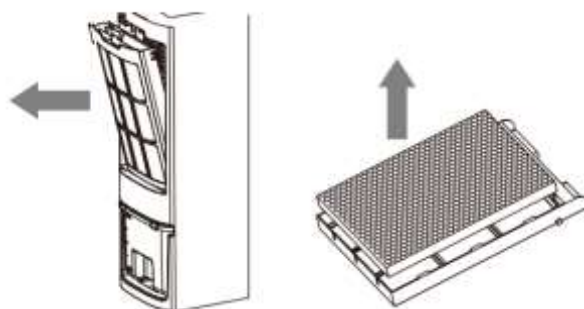

Fig. 4
- Catch the filtration mesh handle and pull upwards.(shown in fig.4)